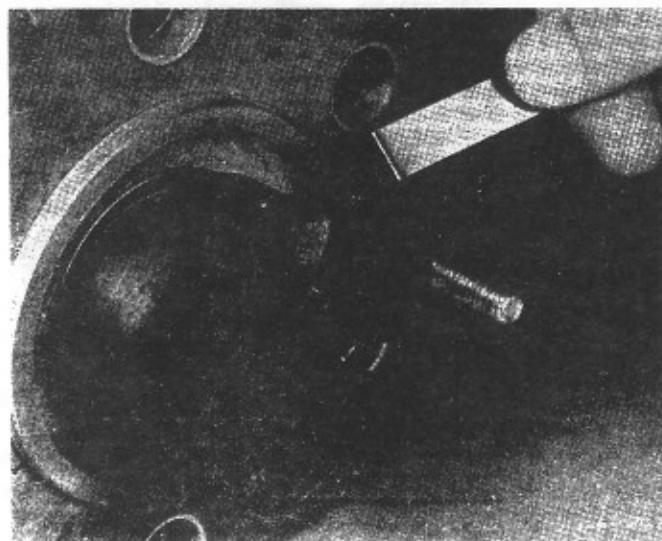

Figure 5
1.3 Check gap between drive hub fingers and coupling slots. Gap must not exceed .012" (.30mm). Fig. 5.